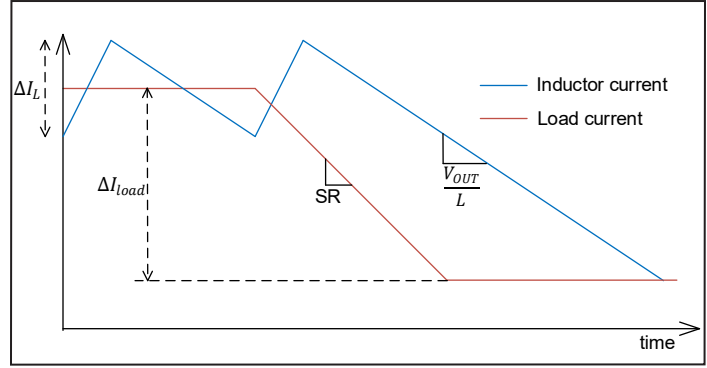

Figure 33 Inductor Current during Unloading
The transient overshoot happens when the load current is rapidly reduced (load throw off event). In this situation, the load slew rate (SR) magnitude is larger than the inductor current falling rate, as shown in Figure 33. In a COT controlled converter, the maximum overshoot in the output voltage can happen, when the load throw-off occurs immediately after start of a T_{ON} pulse. Accordingly, the required capacitance is as follows: